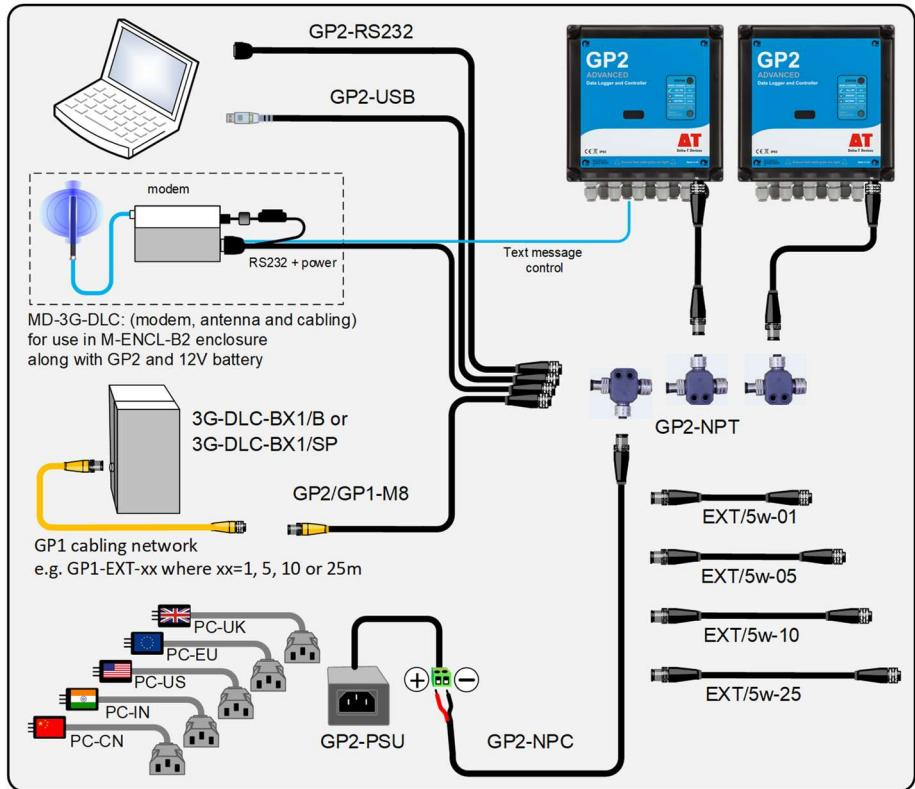

Figure A5 GP2 Network Cabling options
- A mini USB cable (not shown in Fig A5) - is required in order to configure the modem at the logger end. This is supplied as standard with the Delta-T modem solutions i.e. 3G-DLC-BX1/B and MD-3G-DLC.
1. Connect your PC to the GP2 network, via the GP2 USB cable or GP2-RS232 cable, or, if using a modem, via the cabling indicated in Figure A5..